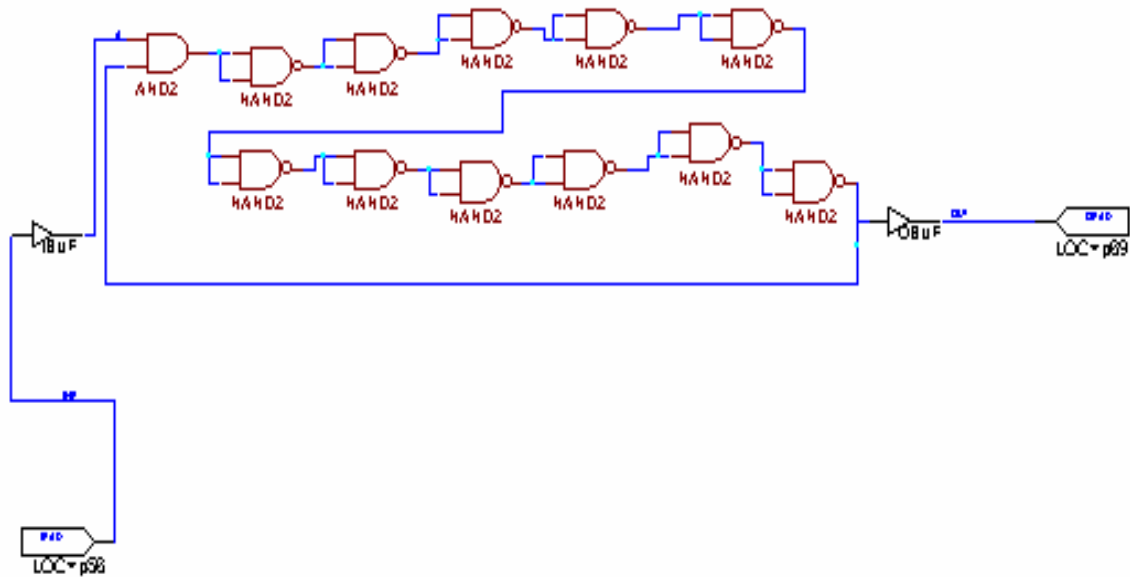

Figure 5.4
- Now design a schematic of ring oscillator of 11 gates by using NAND gates only and attach an AND gate with the first NAND gate in the chain (as shown in Figure 5.4), where one of inputs of AND gate is connected to a switch. Do timing simulation of this device (You will not be able to do functional simulation here. Try that and see what happens!). Watch the oscillator output as the switch is flipped between 0 & 1.